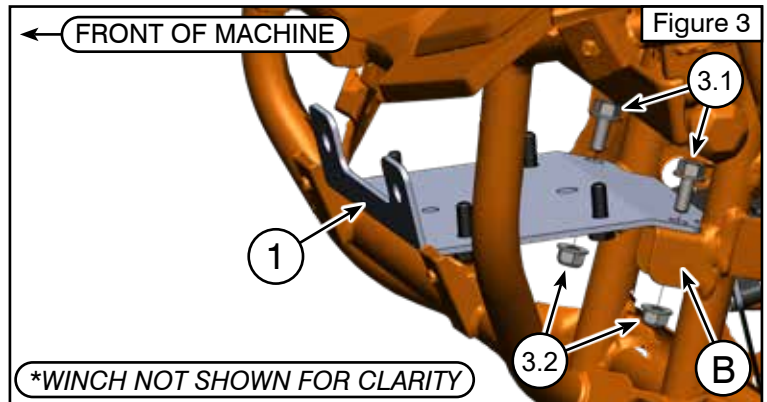

Figure 3
4. With the winch installed on the winch mount bracket (1), loosely install rear bolts (3.1) and nuts (3.2) through the tabs on the frame (B). See **Figures 3 and 5**.